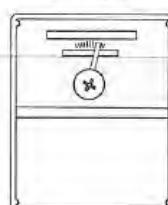
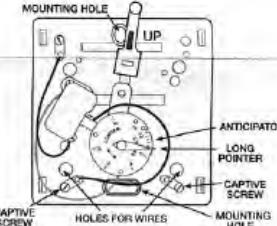

FIGURE 2
FIGURE 3
- Remove Front Cover of new thermostat by inserting a finger in the side of the thermostat and gently prying away each corner. Remove Base, Figure 2, from Sub-Base, Figure 3, by loosening three captive screws.
- Place Sub-Base, Figure 3, on wallplate over wall opening. Mark wall with pencil at mounting holes as shown in Figure 2. Now lay wallplate and Sub-Base to the side.
- Referring to your notes and the following diagrams, attach wires to terminal screws shown in Figure 2. Make sure bare metal wires do not touch each other. Push all excess wire back into wall.
- Place Base, Figure 3, over Sub-Base and attach by tightening three captive screws.
- Find anticipator setting on old thermostat. Setting on new thermostat should be the same. Do this by carefully sliding the long pointer, Figure 2, over desired number printed on the anticipator. If old anticipator setting cannot be determined, look on gas control on furnace, or set at 6. During heating season, furnace should operate about five times an hour. If adjustments are necessary, move heat anticipator pointer slightly and recheck. NOTE: Set pointer to 1.2 for millivolt systems.